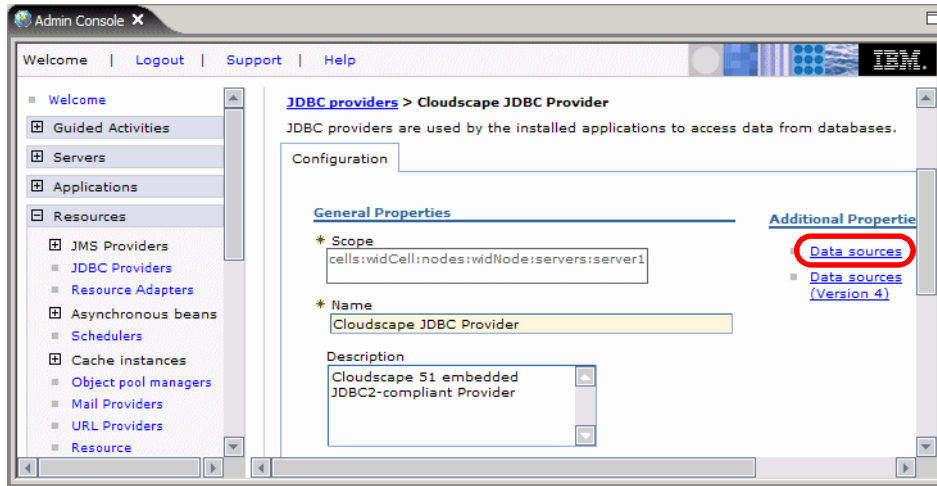

Figure 9-8 Cloudscape JDBC Provider
- ▶ Click *Data sources* to define the data source (Figure 9-8).